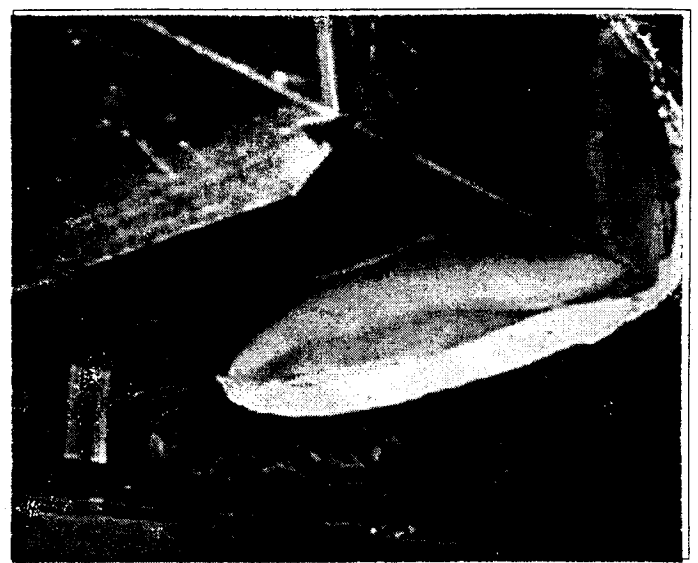

Figure 2
- h. Do not compress insulation. See figures 2 and 8.
- I. Carry insulation over standing seams and trapeze duct hangers. See figures 2 and 5.
- g. Do not compress insulation to a thickness less than that specified. See figures 2 and 8.
- h. Carry insulation over standing seams and trapeze duct hangers. See figure 2.